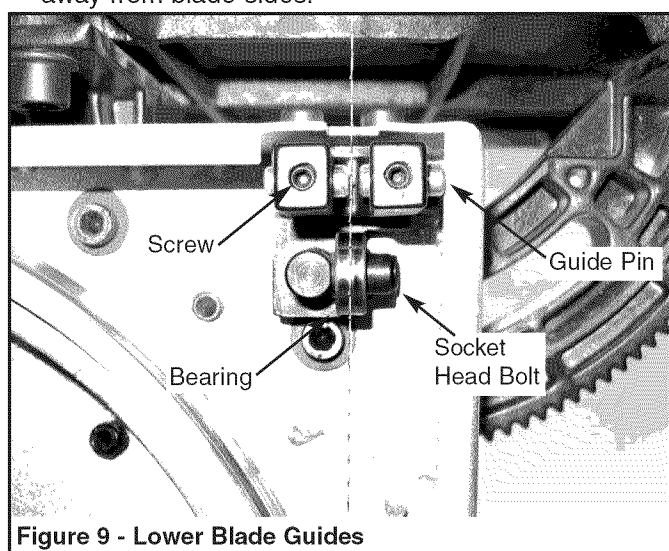

Figure 9 - Lower Blade Guides
- Loosen screws (see Figure 9) and move guide pins away from blade sides.
- Adjust guide pins (see Figure 9) to sides of the blade. Use a feeler gauge to check that guide pins are 0.002" away from blade.